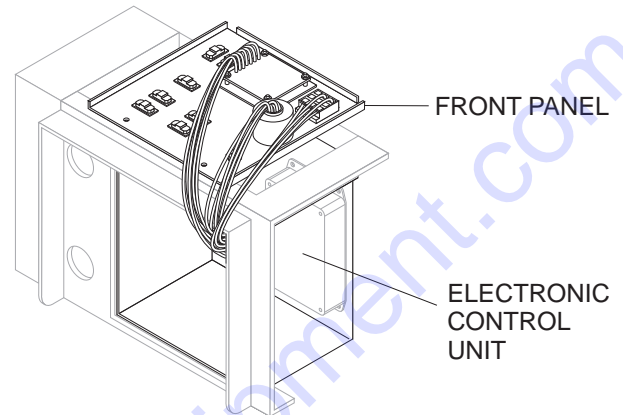

Figure 36. Pulling Out Control Panel
2. Tilt and slowly pull out the control panel and place it on top (Figure 36) of the control box to gain access to the inside of the box.